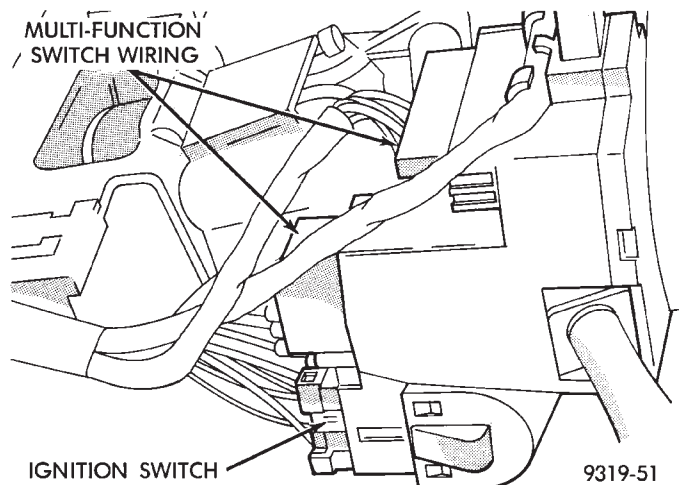

Fig. 13 Steering Column Assembly Removed From Bracket
(21) Remove steering column assembly from its mounting bracket and lay it on the floor of the vehicle (Fig. 13).
(22) Remove wiring harness connectors from turn signal/multi-function switch and ignition switch (Fig. 13).
(2) Position steering column on the floor of the vehicle. Install wiring harness trough on steering column. Note: Yellow connector mates to air bag clock spring connector (yellow paint marked). Connect vehicle wiring harness connectors to turn signal/multi function switch, ignition switch, halo light and clock spring. Be sure to route wiring through clips on multi function switch and on side of clock spring (Fig. 13 and 14). Be sure wiring is taut and free of interference with column shift actuator in low gear.